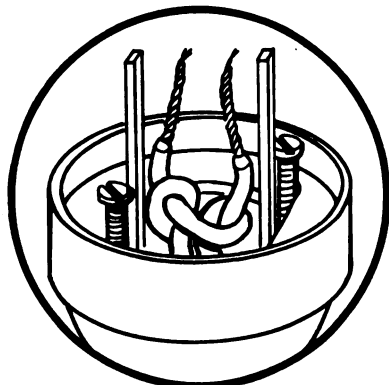

Fig. 7
7. Pull knot down firmly in the plug. (Fig. 7)